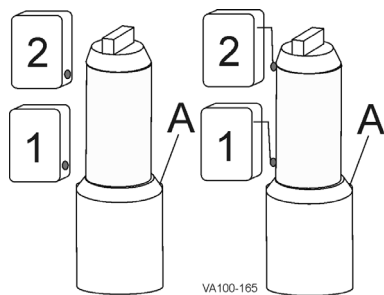

Figure 23: Valve Closed Adjustment
4. Lower the stem to close the valve and adjust the target of the lower switch to slightly above the stem shoulder (Figure 23). Tighten the cap screws securely.